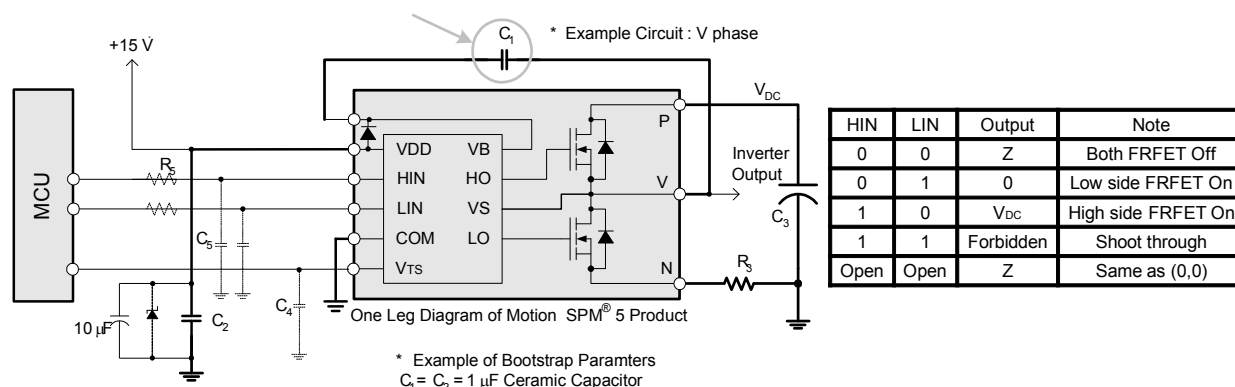

Figure 4. Recommended MCU Interface and Bootstrap Circuit with Parameters
1. For the measurement point of case temperature T_C , please refer to Figure 4.